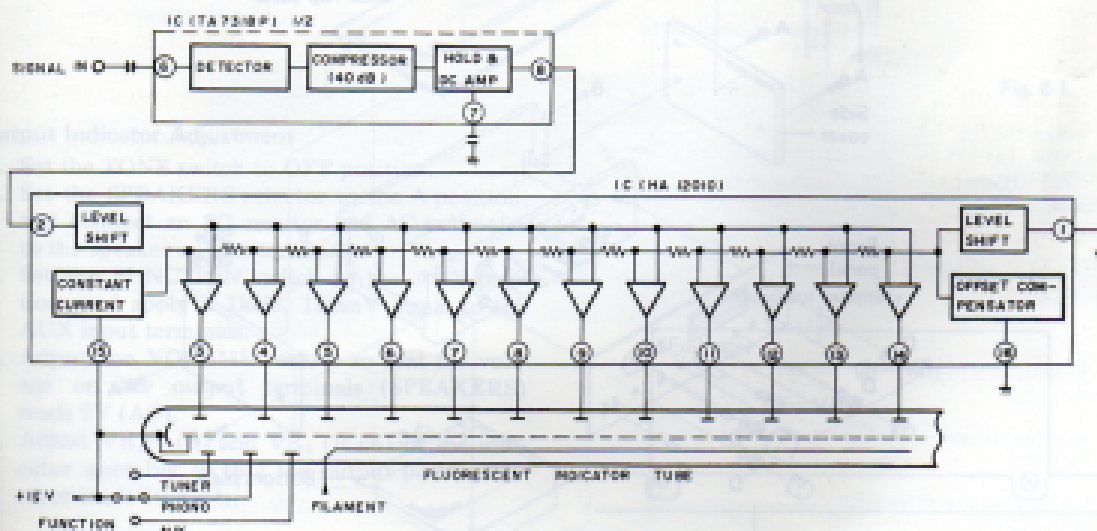

Fig. 4-4 Indicator circuit
An outline of the FL tube drive circuit is shown in Fig. 4-4. The output circuit signal is applied to pin no. 6 (4) of the IC (TA7318P-A). The IC contains a detector circuit, compressor (40dB), and peak hold circuit for both left and right chan-